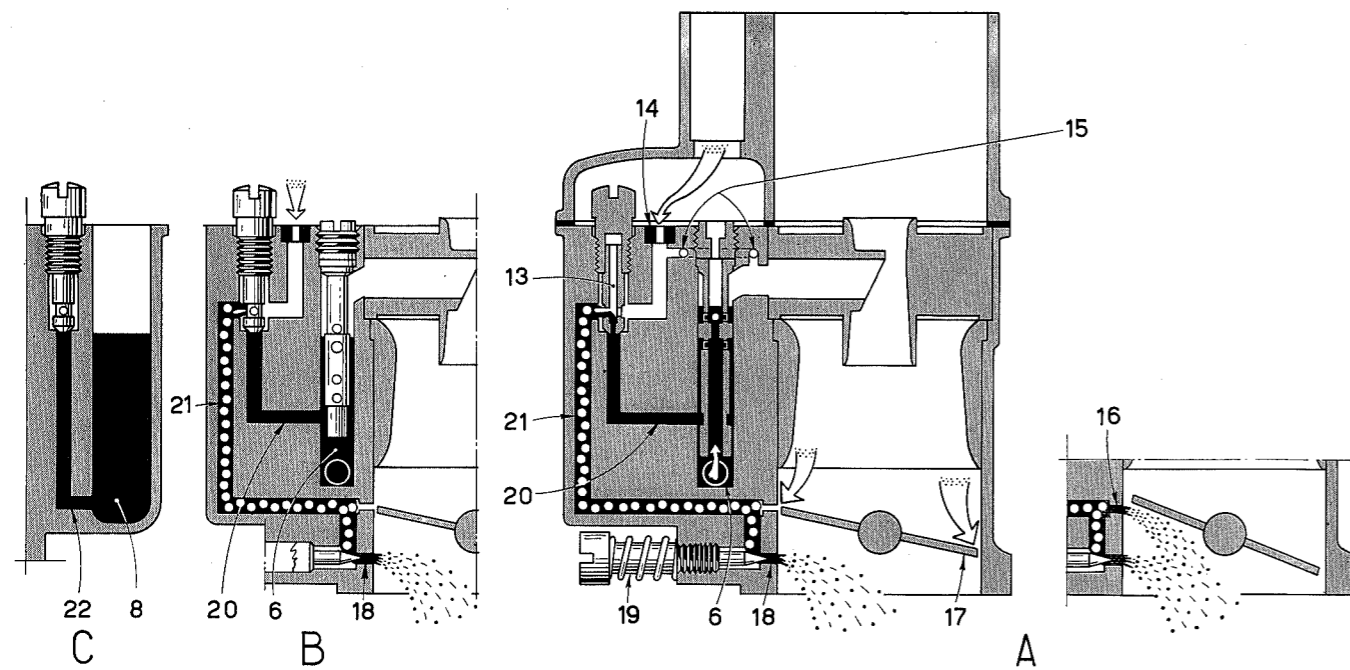

FIG. 2
**MINIMO E PROGRESSIONE - Fig. 2**
**IDLE SPEED AND PROGRESSION - Fig. 2**